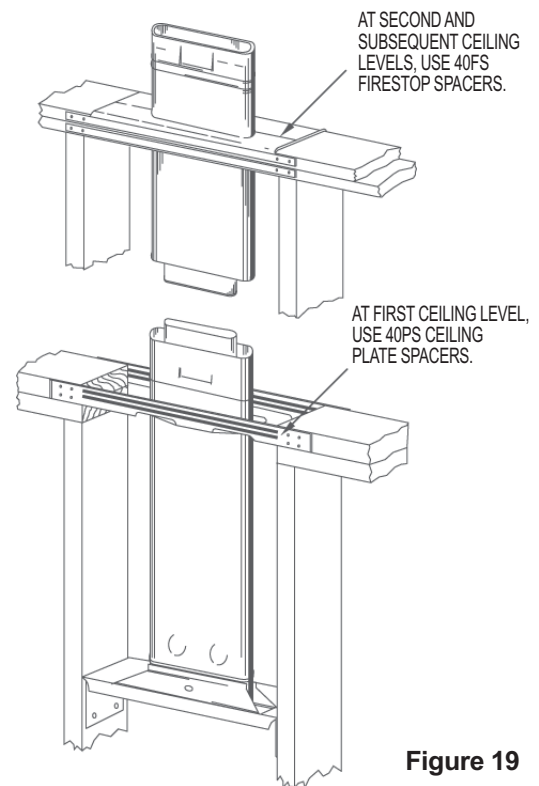

Figure 19
- If the Vent is to continue additional stories within a 2x4 stud space, install Firestop Spacers at the second and subsequent ceiling levels as shown in **Figure 19**.